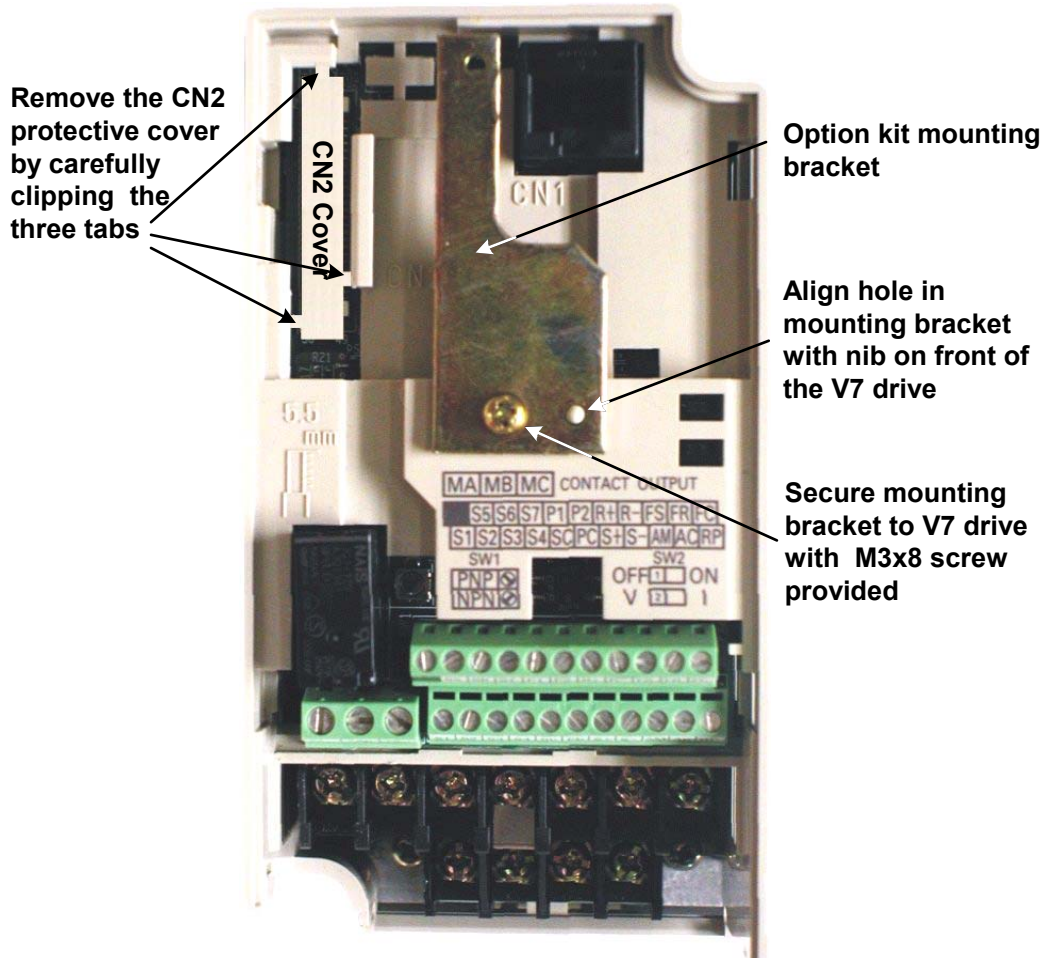

Figure 1.2 – Remove CN2 Cover and Install Option Mounting Bracket
- 4.2:** Remove the plastic protective cover from over the CN2 connector. Refer to **Figure 1.2 – Remove CN2 Cover and Install Option Mounting Bracket**.
- 4.3:** Install the option mounting bracket provided on to the drive. Refer to **Figure 1.2 – Remove CN2 Cover and Install Option Mounting Bracket**.